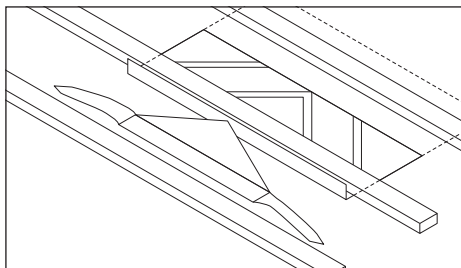

Fig. 1 – Mark throat position and cut underlay
- 2 At the position the ventilator is required, align the throat between two tile battens, and mark the throat position before cutting through the underlay as shown (Fig. 1).
- 3 Fold the three flaps upwards and outwards to provide the hole for the ventilator throat (Fig. 1).